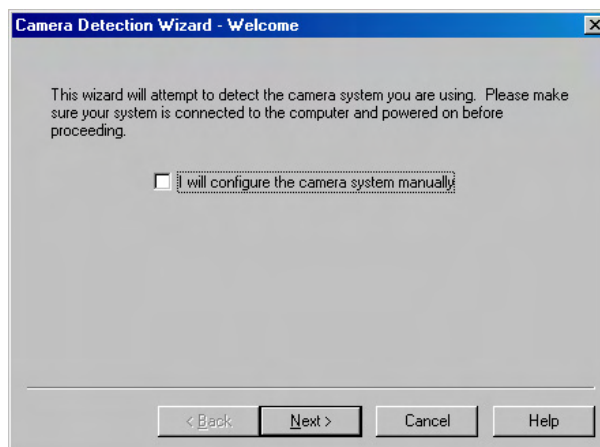

Figure 8. Camera Detection Wizard - Welcome dialog box
3. On the **Welcome** dialog (Figure 8), leave the checkbox unselected and click on **Next**.